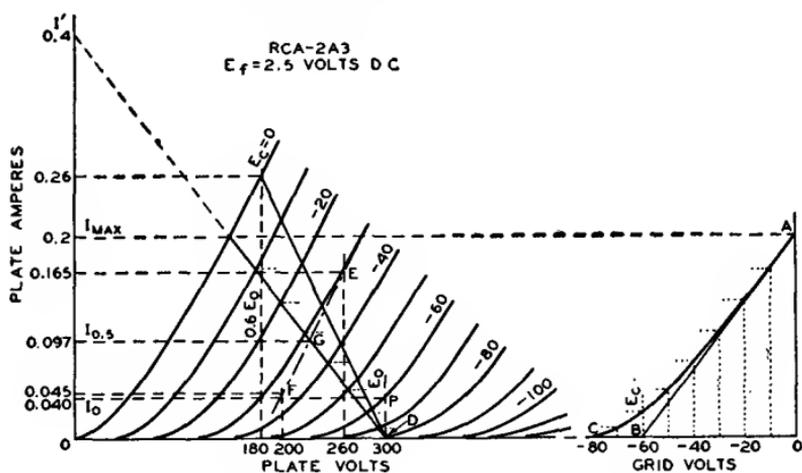
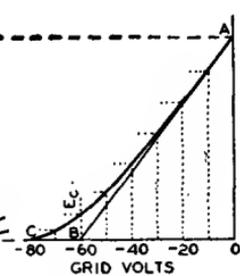

Fig. 25
Fig. 26
In class AB1 push-pull amplifier service using triodes, the operating conditions may be determined graphically by means of the plate family if  $E_o$ , the desired operating plate voltage, is given. In this service, the dynamic load line does not pass through the operating point P as in the case of the single-tube amplifier, but through the point D in Fig. 25. Its position is not affected by the operating grid bias provided the plate-to-plate load resistance remains constant. Under these conditions, grid bias has no appreciable effect on the power output. Grid bias cannot be neglected, however, since it is used to find the zero-signal plate current and, from it, the zero-signal plate dissipation. Because the grid bias is higher in class AB1 than in class A service for the same plate voltage, a higher signal voltage may be used without grid current being drawn and, therefore, higher power output is obtained than in class A service.
In general, for any load line through point D, Fig. 25, the plate-to-plate load resistance in ohms of a push-pull amplifier is  $R_{pp} = 4E_o/I'$ , where  $I'$  is the plate current value in amperes at which the load line as projected intersects the plate current axis, and  $E_o$  is in volts. This formula is another form of the one given under push-pull class A amplifiers,  $R_{pp} = 4(E_o - 0.6E_o)/I_{max}$ , but is more general. Power output =  $(I_{max}/\sqrt{2})^2 \times R_{pp}/4$ , where  $I_{max}$  is the peak plate current at zero grid volts for the load chosen. This formula simplified is  $(I_{max})^2 \times R_{pp}/8$ . The maximum-signal average plate current is  $2I_{max}/\pi$  or  $0.636 I_{max}$ ; the maximum-signal average power input is  $0.636 I_{max} E_o$ .
**Example:** Fig. 25 illustrates the application of this method to a pair of 2A3's operated at  $E_o=300$  volts. Each tube has a plate-dissipation rating of 15 watts. The method is to erect a vertical line at  $0.6E_o$ , or at 180 volts, which intersects the  $E_c = 0$  curve at the point  $I_{max} = 0.26$  ampere. Using the simplified formulas, we obtain
The operating bias and the zero-signal plate current may now be found by use of a curve which is derived from the plate family and the load line. Fig. 26 is a curve of instantaneous values of plate current and dc grid-bias voltages taken from Fig. 25. Values of grid bias are read from each of the grid-bias curves of Fig. 25
along the load line and are transferred to Fig. 26 to produce the curved line from A to C. A tangent to this curve, starting at A, is drawn to intersect the grid-voltage abscissa. The point of intersection, B, is the operating grid bias for fixed-bias operation. In the example, the bias is -60 volts. Refer back to the plate family at the operating conditions of plate volts = 300 and grid bias = -60 volts; the zero-signal plate current per tube is seen to be 0.04 ampere. This procedure locates the operating point for each tube at P. The plate current must be doubled, of course, to obtain the zero-signal plate current for both tubes. Under maximum-signal conditions, the signal voltage swings from zero-signal bias voltage to zero bias for each tube on alternate half cycles. Hence, in the example, the peak af signal voltage per tube is 60 volts, or the grid-to-grid value is 120 volts.
As in the case of the push-pull class A amplifier, the second-harmonic distortion in a class AB1 amplifier using triodes is very small and is largely cancelled by virtue of the push-pull connection. Third-harmonic distortion, however, which may be larger than permissible, can be found by means of composite characteristic curves. A complete family of curves can be plotted, but for the present purpose only the one corresponding to a grid bias of one-half the peak grid-voltage swing is needed. In the example, the peak grid voltage per tube is 60 volts, and the half value is 30 volts. The composite curve, since it is nearly a straight line, can be constructed with only two points (see Fig. 25). These two points are obtained from deviations above and below the operating grid and plate voltages. In order to find the curve for a bias of -30 volts, we have assumed a deviation of 30 volts from the operating grid voltage of -60 volts. Next assume a deviation from the operating plate voltage of, say, 40 volts. Then at 300 - 40 = 260 volts, erect a vertical line to intersect the (-60) - (-30) = -30-volt bias curve and read the plate current at this intersection, which is 0.167 ampere; likewise, at the intersection of a vertical line at 300 + 40 = 340 volts and the (-60) + (-30) = -90-volt bias curve, read the plate current. In this example, the plate current is estimated to be 0.002 ampere. The difference of 0.165 ampere between these two currents determines the point E on the 300 - 40 = 260-volt vertical. Similarly, another point F on the same composite curve is found by assuming the same grid-bias deviation but a larger plate-voltage deviation, say, 100 volts. We now have points at 260 volts and 0.165 ampere (E), and at 200 volts and 0.045 ampere (F). A straight line through these points is the composite curve for a bias of -30 volts, shown as a long-short dash line in Fig. 25. At the intersection of the composite curve and the load line, G, the instantaneous composite plate current at the point of one-half the peak signal swing is determined. This current value, designated I0.5 and the peak plate current, Imax, are used in the following formula to find peak value of the third-harmonic component of the plate current.